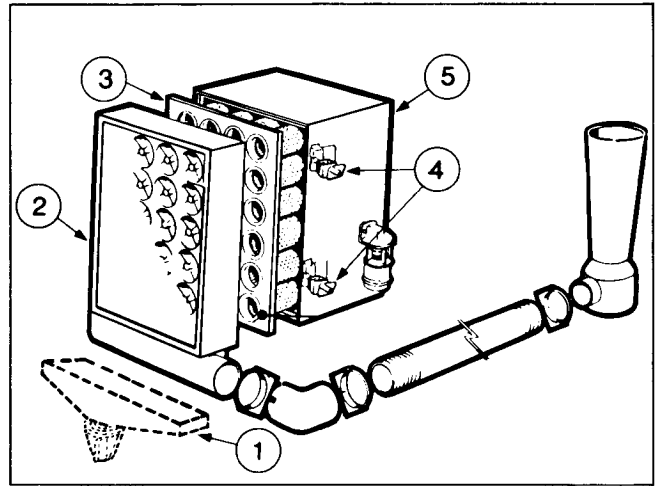

Fig. 2-13, (N21026). Air cleaner — cartridge type (two stage)
1. Loosen wing nuts (4, Fig. 2-13 or 2-14) on air cleaner housing (5) to remove pre-cleaner panel with dust bin (1). To remove pre-cleaner panel (2) equipped with exhaust aspirator loosen "U" bolt clamp securing pre-cleaner to aspirator tubing.
2. To install a new cartridge, hold cartridge (3, Fig. 2-13 and 2-14) in same manner as when removing from housing. Insert clean cartridge into housing; avoid hitting cartridge tubes against sealing flange on edges of air cleaner housing.
4. Replace pre-cleaner panel (2) and tighten wing nuts (4) by hand, for final tightness turn 1-1/2 to 2 turns with a small adjustable wrench. Do not overtighten. On pre-cleaner with exhaust aspirator, assemble aspirator tube to pre-cleaner panel and tighten "U" bolt.